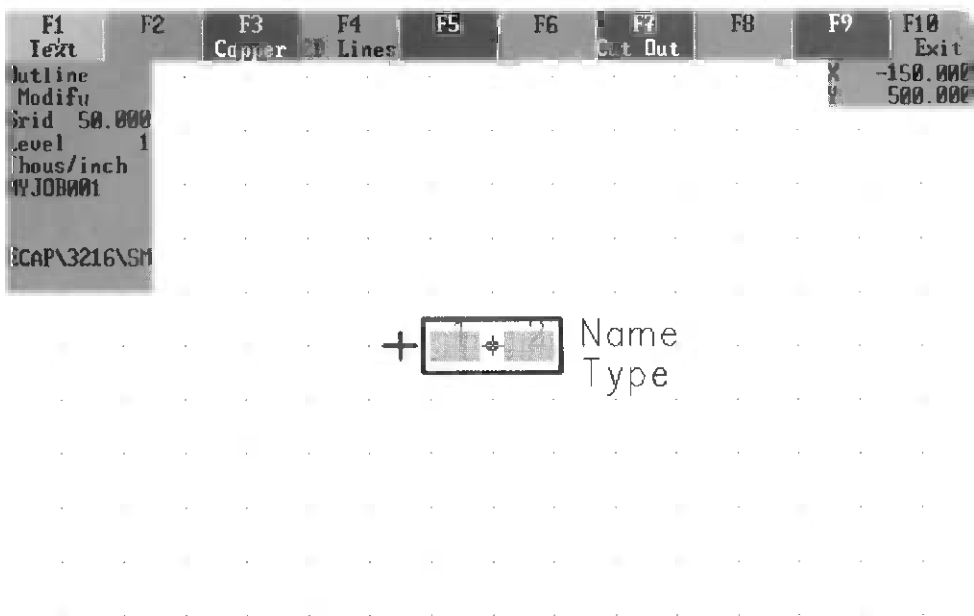

Figure 10-6 ECAP\3216\SMD Part Layout
- **C2,C4** (1UF 16V Tantalum capacitor): Refer to Figure 10-6 for the ECAP\3216\SMD pin arrangement. Same note about pin numbers as C1 above. No editing is required.